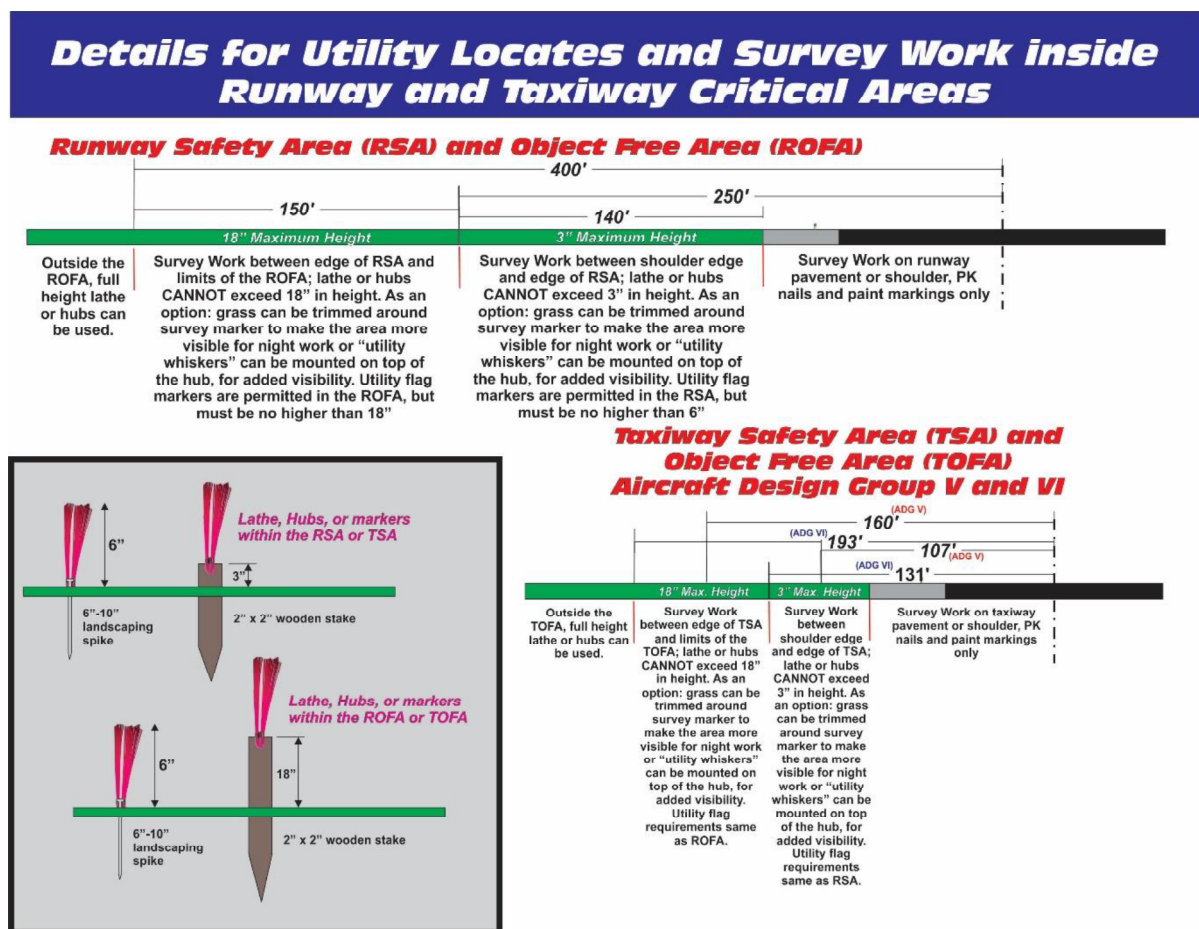

Figure 3
- d. **Utility Lines** - All utilities will be protected/identified using the approved ORD utility markers. Markers are 2" PVC pipe with the appropriate utility identifier label affixed to it. Utility labels can be obtained from the RE. (See Fig. 3)